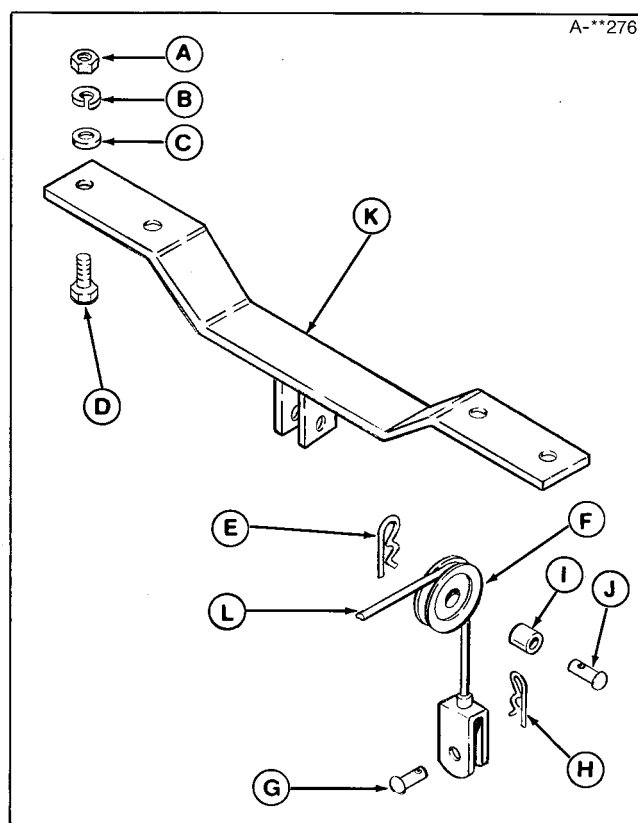

Figure 1. Pulley Support Bracket
2. Place the cable (L, figure 1) over the pulley (F). Insert the spacer (I). Attach the pulley (F) to bracket (K) with 1-1/2" pin (J) and spring clip (E).
4. Install the 1" pin (G, figure 1) and spring clip (H) in the clevis until mower is hooked up.